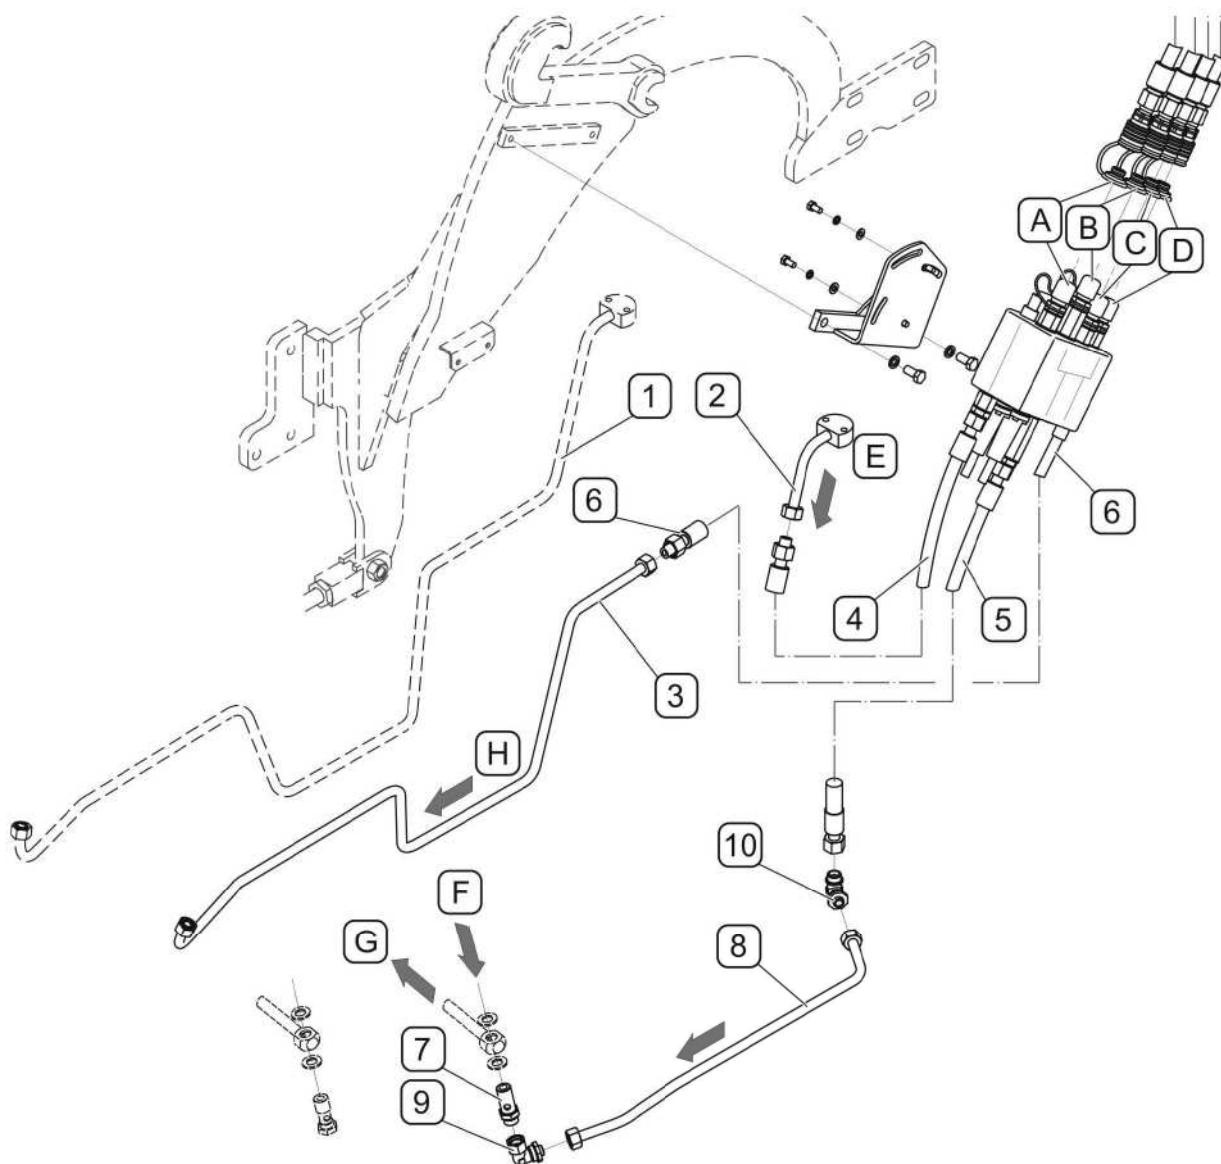

FIG. 4.10A Connecting selective control valve to hydraulic systems (ZEFIR 85/85K to factory number 71)
In Zefir 85/85K tractors up to factory number. 71 FIG. 4.10A). change hydraulic line (1) connecting oil pump (E) with tractor selective control valve, for two conduits: (2)–conduit 145N-01020400 i (3)–conduit 145N-01020500. Using flexible conduit (4) connect to connecting pipe supplying selective control valve with metal line (2) near pump. Connect flexible line (6) to side connecting pipe of selective control valve and to metal line (3) of tractor selective control valve. In place of opening bolt securing oil return line from selective control valve to tank screw in opening bolt (7). Through swivel elbow (9), secure line (8). Flexible line (5) of oil return circuit from selective control valve shall be connected through swivel elbow (10) with line (8). Loader's hydraulic system is connected to selective control valve using quickcouplers (A), (B), (C), (D), marked with appropriate colours.